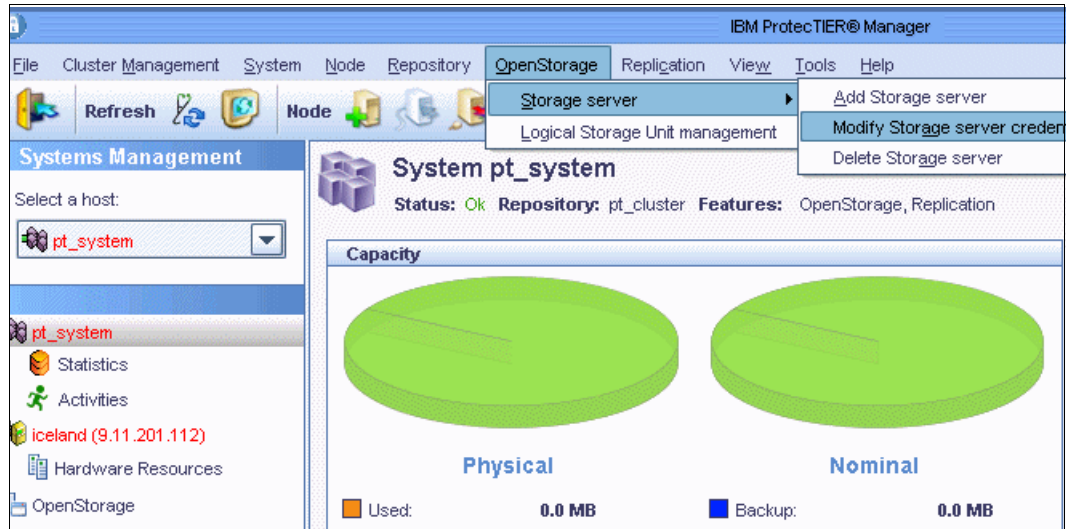

Figure 5-82 Select Modify Storage server credentials
- From the OpenStorage menu, select **Storage server** → **Modify Storage server credentials** (Figure 5-82).